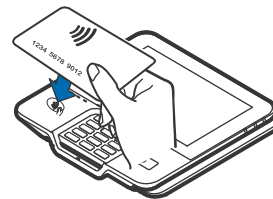

Figure 11 Contactless Smart Card Transaction
- A magnetic card reader built into the device for performing debit or credit card transactions. The card can be swiped from either direction. To ensure a proper read of the magnetic swipe card, insert the magnetic card from the side of the device as shown in Figure 11.